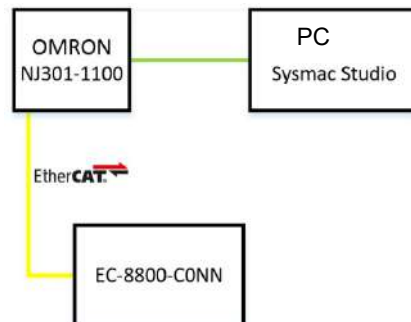

Figure 5-1-16 Communication connection diagram
1. Communication connection diagram, as shown in Figure 5-1-16 shown.